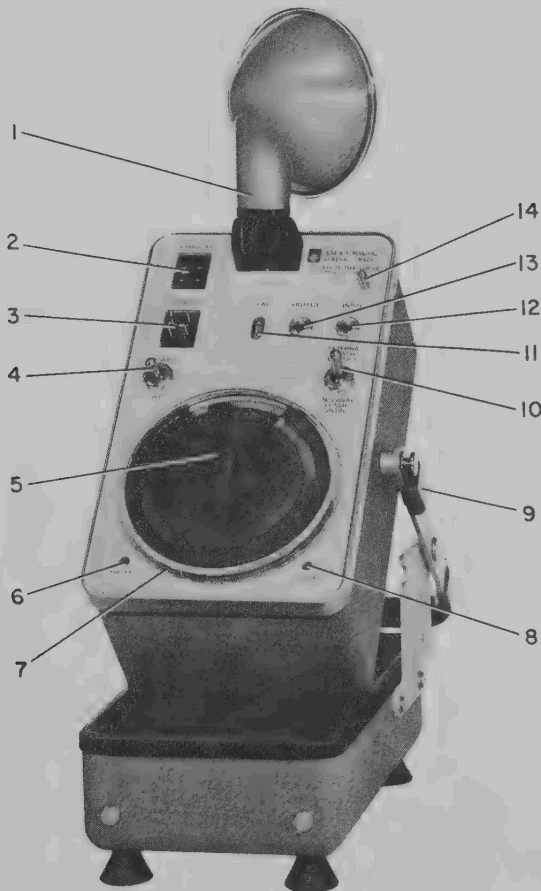
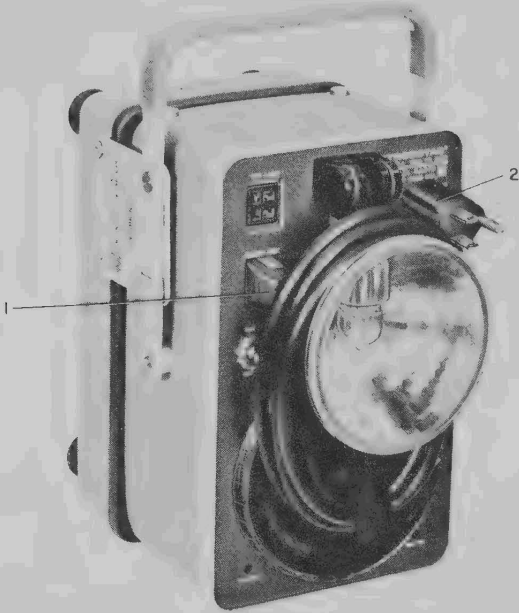

Figure 1-3. The front panel of the stroboscope, showing the controls and connectors.
Figure 2-1. Method of storing the ac power cable when the instrument is not in use.
All controls and connectors are located on the front panel of the instrument (see Figure 1-3). The type and function of each are given in Table 1-1.
b. Unlock the case by sliding the two gray latch blocks, 9, Figure 1-3, (one on each side of the case) away from the handle. (It may be necessary to push down on the top of the instrument to release the latch blocks).
c. Push the 4-prong socket (1, Figure 2-1) at one end of the ac power cable onto the panel power plug (3, Figure 1-3) and wind the cable in a counterclockwise direction around the range-switch bar knob and the reflector.
d. To secure the cable end, slide the 3-wire plug (2, Figure 2-1) onto the 1/2-inch pin (14, Figure 1-3) on the panel.
e. To complete the closing of the case, push down slightly on the handle of the case with one hand, and with the other swing the instrument so that the panel is facing down. Lower the instrument onto the rubber gasket by slowly releasing the handle. Apply light pressure on the top of the case and slide the two gray latch blocks (9, Figure 1-3) toward the handle to lock the case.
The stroboscope will also operate on 24 volts dc. The Type 1538-P3 Battery and Charger (Figure 2-3) is recommended for this type of operation (see paragraph 2.3.3). The dc power also is applied at the 4-prong plug (3, Figure 1-3) on the panel, and is controlled by the ON-OFF, POWER switch (4, Figure 1-3).